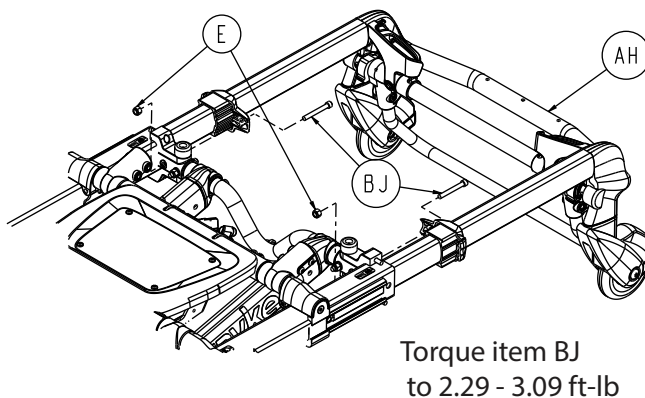

Figure 20 – Head section components
3. Using a 7/16" combination wrench and a 3/16" hex wrench, remove the two socket head cap screws (BJ) and Fiberlock hex nuts (E) that secure the cap bearings to the base litter interface bracket (one on each side) (Figure 20). Save the screws and nuts.
4. Squeeze the head section release handles and remove the head section assembly (AH) (Figure 20).